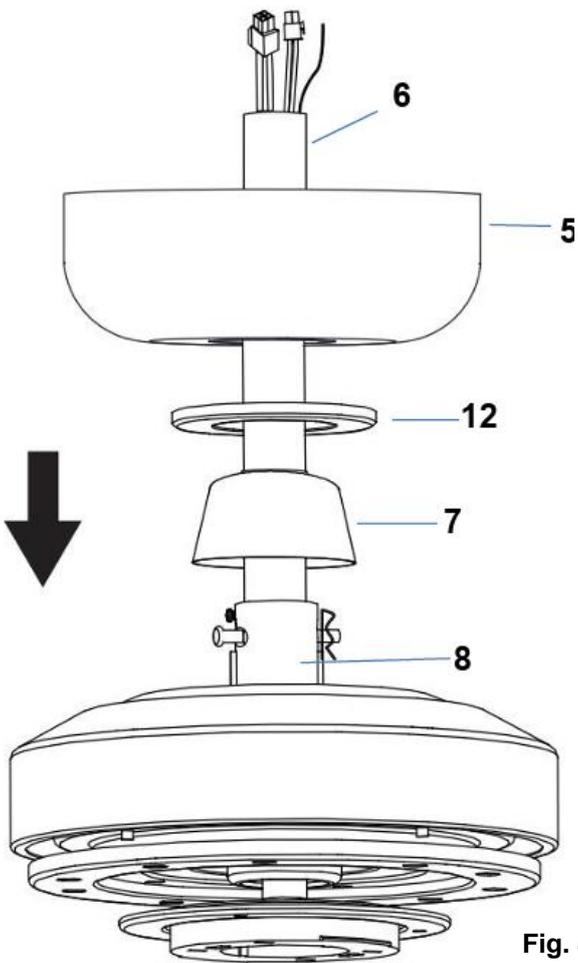

Fig. 4.5
- 6. Insert the decorative cover (7) onto the down rod (6) to cover the down rod coupling housing (8). (Fig. 4.5)
- 7. Insert the canopy cover (12) & canopy (5) over the down rod (6) and install the ball joint (2) and dowel pin (3) back onto the down rod (6) and secure by tightening the set screws (4). (Fig. 4.5 & Fig. 4.6)